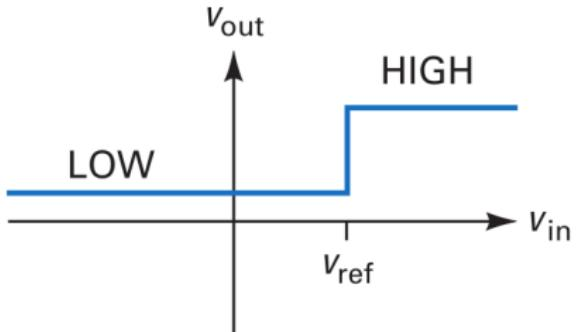

Figure 20: Input/output responder
- ▶ When v_{in} is greater than v_{ref} , the output is high, as shown in Fig. 20.